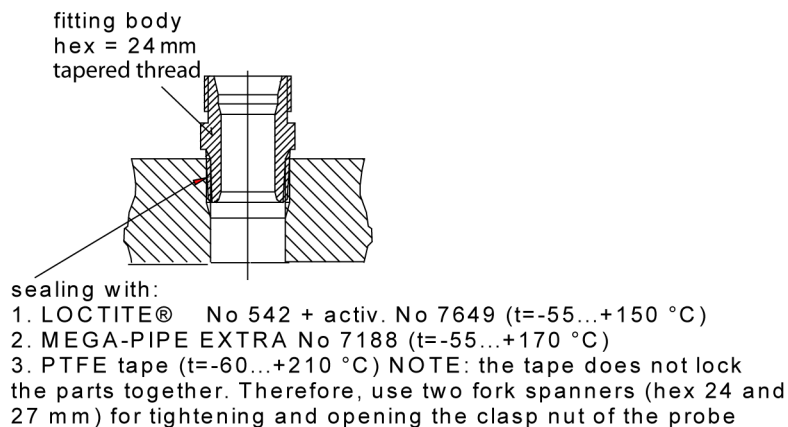

Figure 13 Sealing of Fitting Body into Process
3. Seal the threads on the fitting body; refer to Figure 13 on page 31.